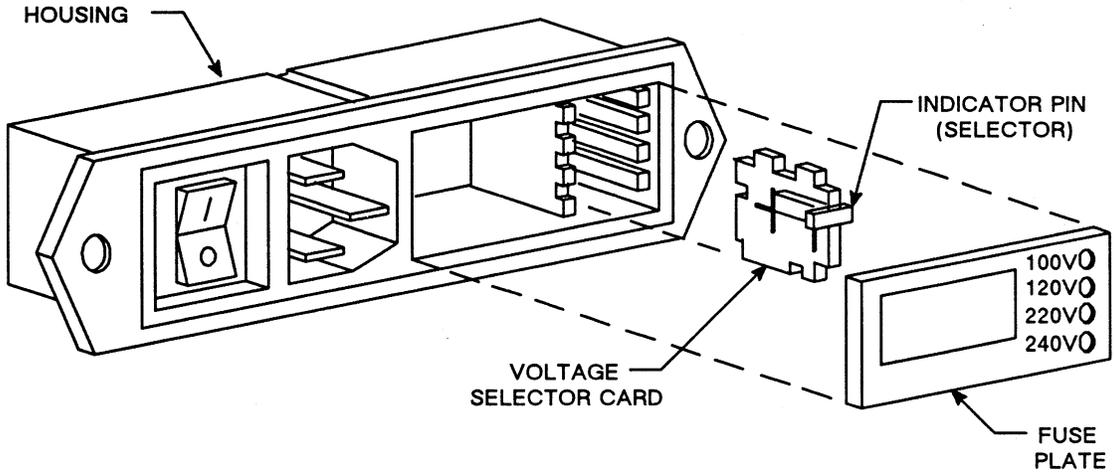

Figure 2-2. Computervision Monochrome Monitor Voltage Selection
1. Insert the proper 1.5A Slo-Blo Fuse (for 220 VAC operation) or 3.0A Slo-Blo Fuse (for 120 VAC operation). See Figure 2-2.
Figure 2-2 shows the voltage selection procedure for the Computervision monochrome monitor.